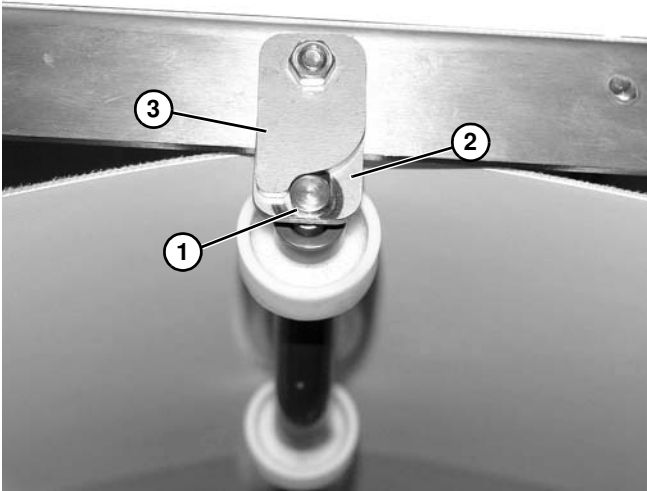

Figure 85
8. Make certain notch (**Figure 85, item 1**) in shaft is inserted into shaft bracket (**Figure 85, item 2**), and lower clip bracket (**Figure 85, item 3**) over shaft and shaft bracket. Repeat on opposite side of conveyor.